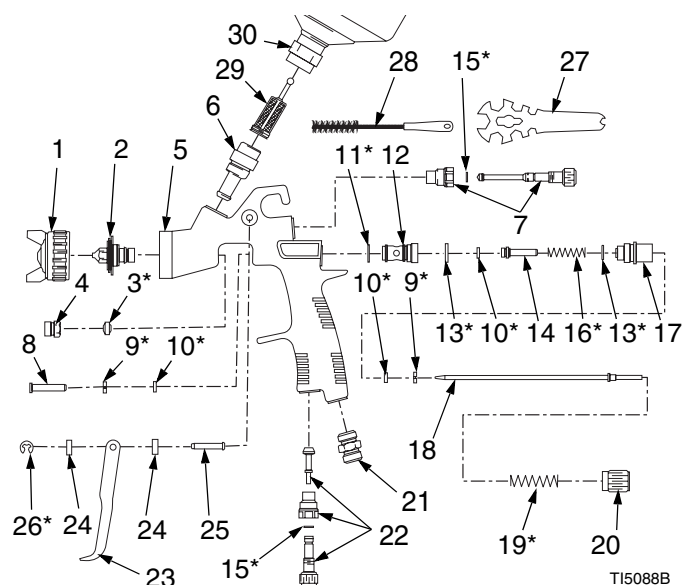

FIG. 7
5. Remove cup (30) and filter (29) and clean them. FIG. 7.
6. Remove air cap (1) and nozzle (2) as instructed on page 6 and soak them in compatible solvent.
1. Remove retaining ring (26), gaskets (24), pin (25) and trigger (23). FIG. 7.
2. Remove packing nut (4) and packing (3).
3. Remove air valve shaft (8).
4. Remove fitting (17) with Allen wrench (Mini-HVLP: 8 mm, Conventional/HVLP: 9 mm).
5. Remove o-rings (13, 10) and holder (9) from fitting (17).
6. Remove spring (16), piston (14), and o-ring (10).
7. Remove air valve seat (12) with o-ring (13) and gasket (11).
8. Remove o-ring (10) and holder (9).
10. Reassemble in reverse order. Lubricate needle and o-rings. Be sure to trigger gun when installing nozzle (2).